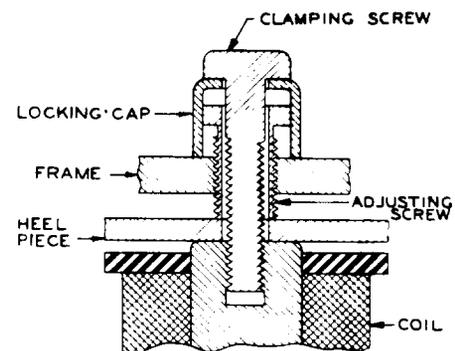

Fig. 37—Vertical Magnet Clamping Screw and Associated Parts
- (3) If the gap between the armature and the closest point on either core exceeds 0.002 inch, adjust the magnet which is farther from the armature closer to the armature as described in (4) or (5).
- (4) To change the position of the magnets on switches equipped with adjusting bushings and round-head locking screws, loosen the vertical magnet locking screws with the 565A and 566A offset screwdrivers. Place the 417A wrench over the magnet adjusting bushing and turn the wrench in a clockwise direction to lower the magnets and in a counterclockwise direction to raise the magnets. Retighten the locking screws each time the position of the magnets is changed and recheck for gap and play.
- (5) To change the position of the vertical magnets on switches equipped with locking caps and hexagon-head clamping screws, loosen the clamping screws with the 418A wrench. Then place the 581A wrench over the locking cap and turn the wrench in a clockwise direction to lower the magnets and in a counterclockwise direction to raise the magnets. Retighten the clamping screws each time the position of the magnets is changed and recheck for gap and play. Turning the locking cap also turns the adjusting screw which changes the position of the vertical magnet. (See Fig. 37.)